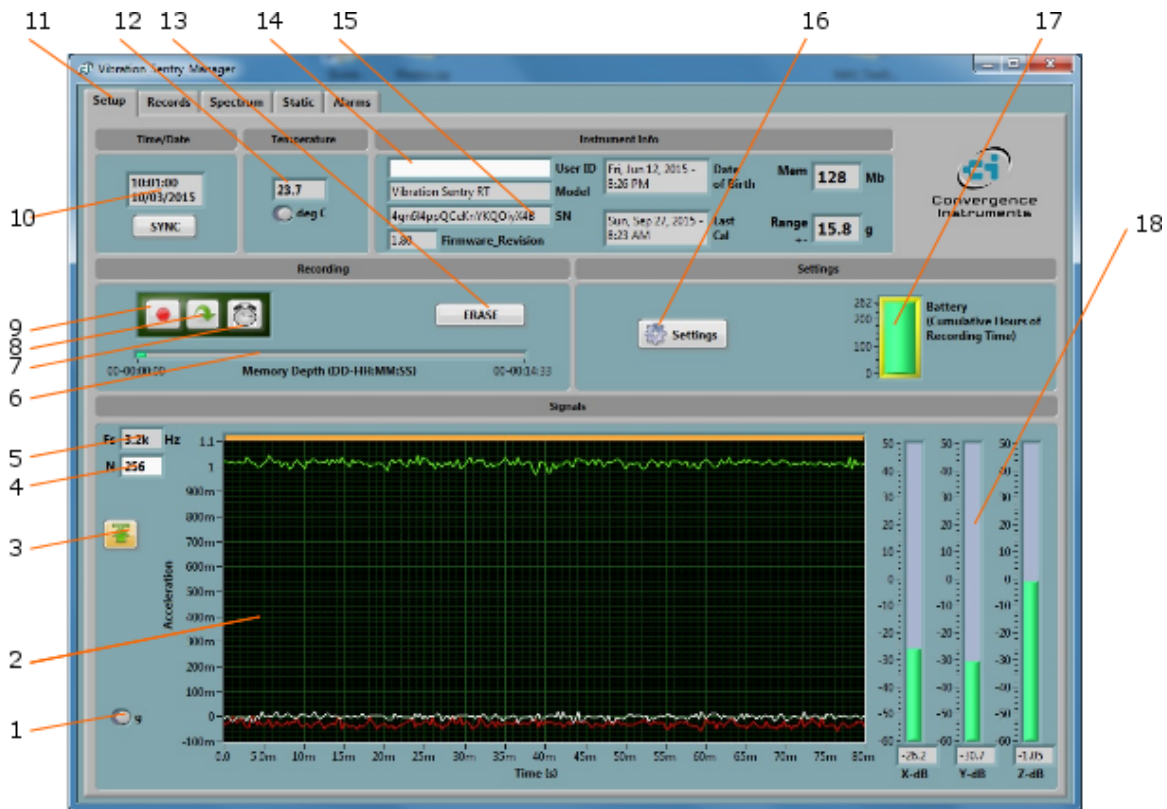

Figure 5 Setup Tab
4. The front-panel described in Figure 5 appears, and the application tries to connect to the instrument. If it fails to find the instrument it indicates *No Device Found*. If this is the case see section Troubleshooting. Otherwise the application immediately starts communicating with the *Vibration Sentry E*.
- **The Setup Tab:** Is used to setup the instrument and monitor real-time measurements (see Figure 5).
The setup tab is seen in Figure 5. It is divided into six fields.